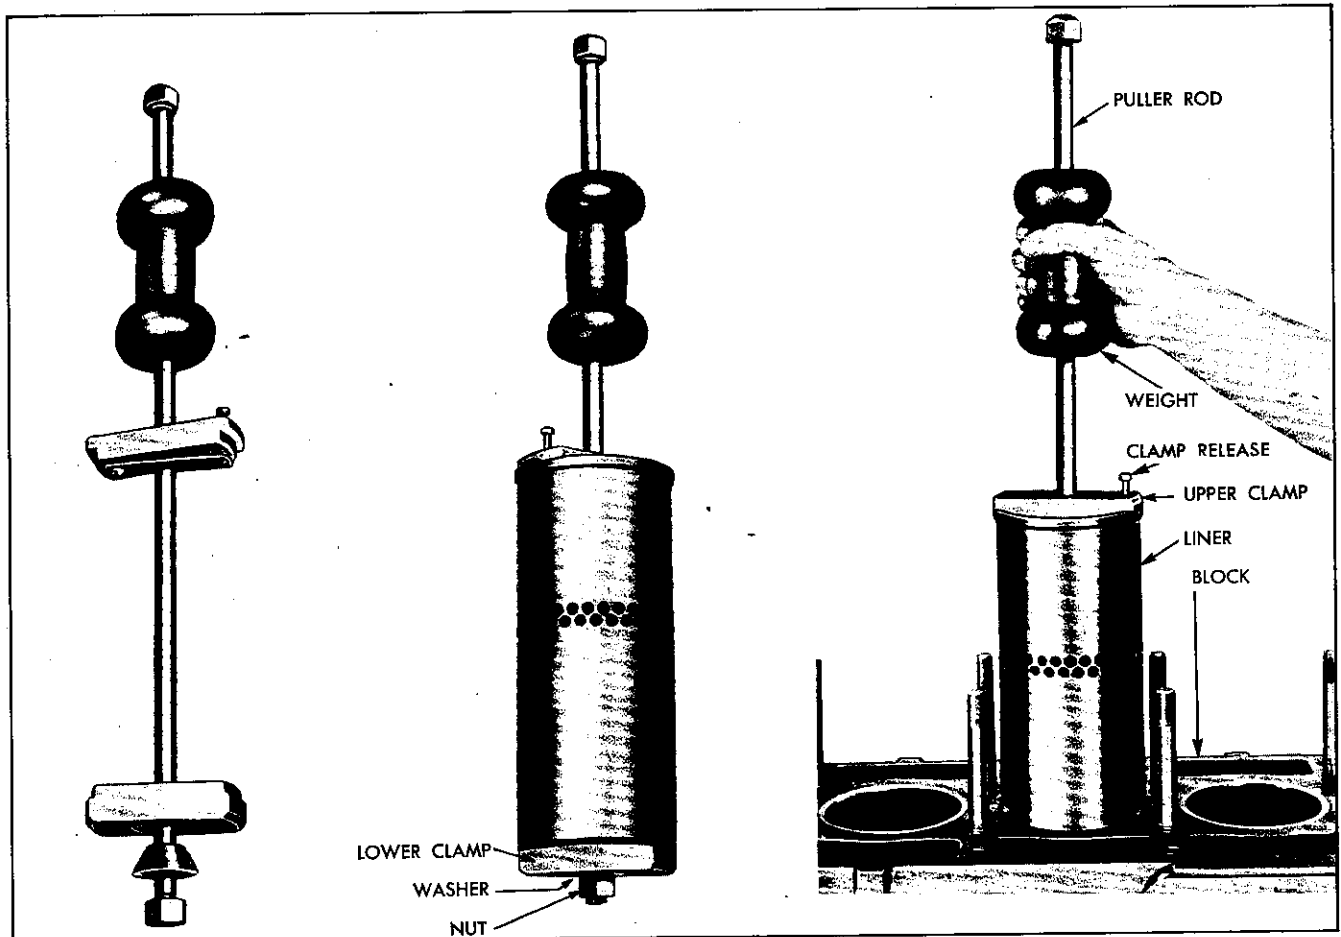

Fig. 2—Removing Cylinder Liner with Tool J-1918.
5. Since the cylinder liners are a loose fit, they may be removed easily from the top of the cylinder block by hand after loosening with the tool shown in Fig. 2.